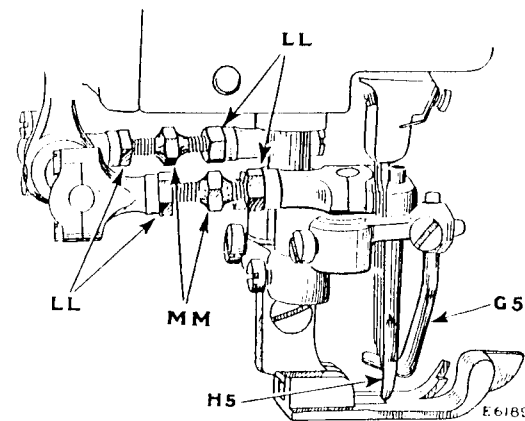

Fig. 22
The covering thread carrier (G5, Fig. 22) and the thread spreader (H5, Fig. 22) should be adjusted so that there will be the proper clearance in passing each other.
To increase or decrease the distance of the carrier (G5) and the spreader (H5) in relation to the needles, loosen the four lock nuts (LL, Fig. 22) and turn the two pitman nuts (MM, Fig. 22) over to the left or right until the required distance is obtained, then securely tighten the four lock nuts (LL).